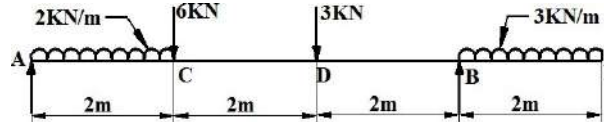

Figure 26
16. For the beam shown in **Figure 26**. Draw shear force and bending moment diagram and indicating the principle values (June/July 08)